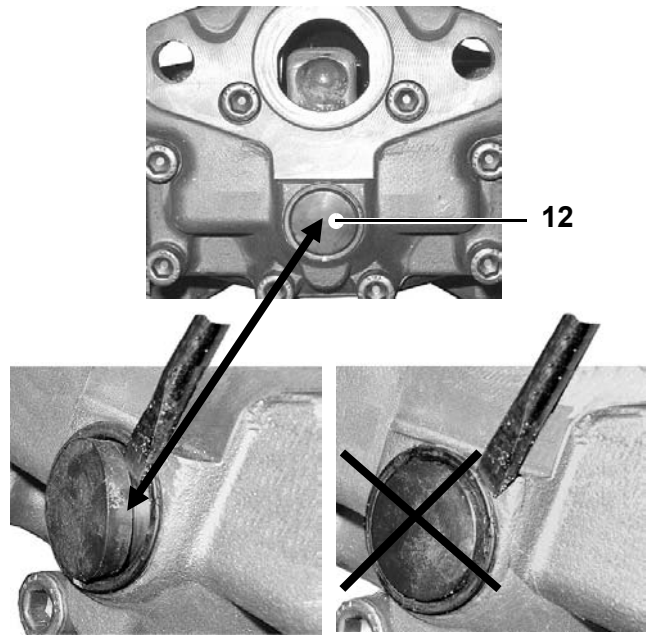

Fig. 2
Caution: On disassembly the proper tool position is against the plug 12 (left side in fig. 2)!
Do not place the tool between calliper and outer side of the sealing ring, otherwise the inner sealing might be damaged (right side in fig. 2)
- Remove plug (12) for the adjuster (22) of the calliper (1) carefully.
Caution: While disassembling plug (12) please note the instructions for fig. 2!
- De-adjust the brake by rotating the hexagon on the adjuster nut (22) with a ring spanner, then release by approx. 1/4 turn.